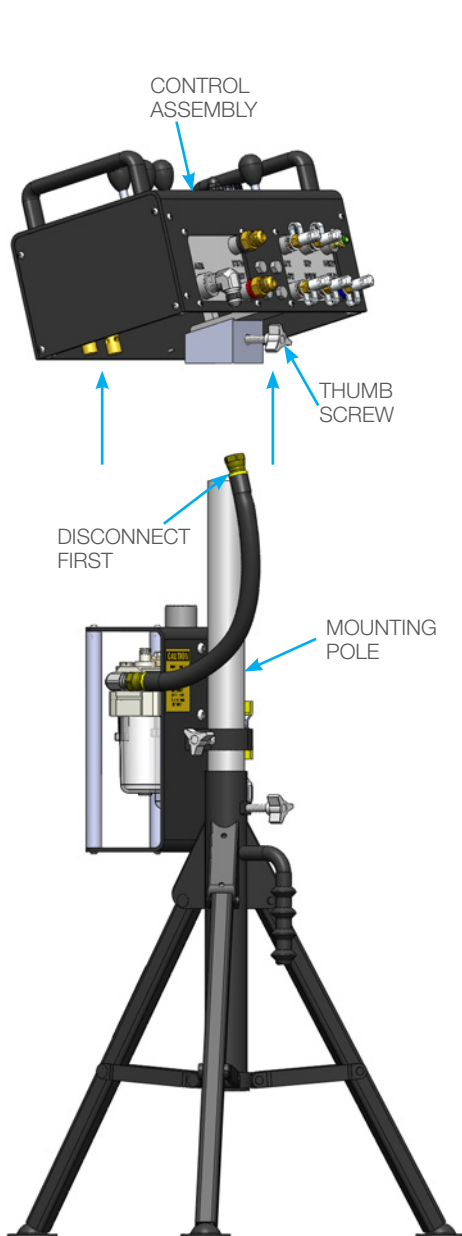

FIGURE 1
1. Disconnect the air hose from the back of the Control Assembly. Loosen the Thumb Screw on the Pole Mount and carefully lift the Control Assembly off of the Mounting Pole. Put the Control Assembly aside. **(Figure 1)**